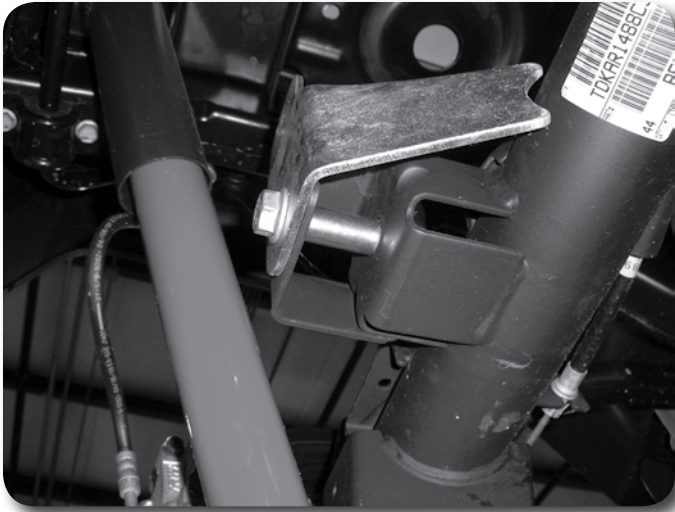

Figure 22
26. Locate the provided crush sleeve (0.750 x 0.090 x 1.575) and position it in the factory track bar bracket. Fasten the new bracket to the original mount with the original track bar bolt and nut tab. Run the bolt through the holes in the bracket as well as through the crush sleeve. **Figure 22**